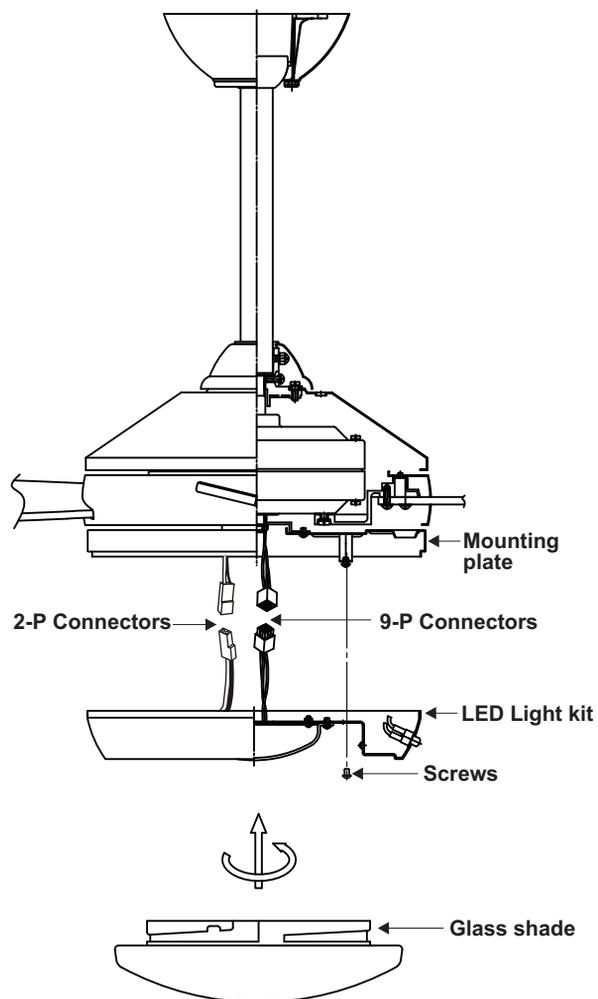

Figure 16
2. Raise and hold the LED light kit close to the mounting plate and proceed to do the wire connections. Make the 2-pin and 9-pin wire connections: (Fig. 16)
3. Place the key holes from the light kit over the 2 screws previously loosened from the mounting plate, turn the light kit until it locks in place at the narrow section of the key holes. Secure by tightening the 2 screws previously loosened and the one previously removed. (Fig. 16)